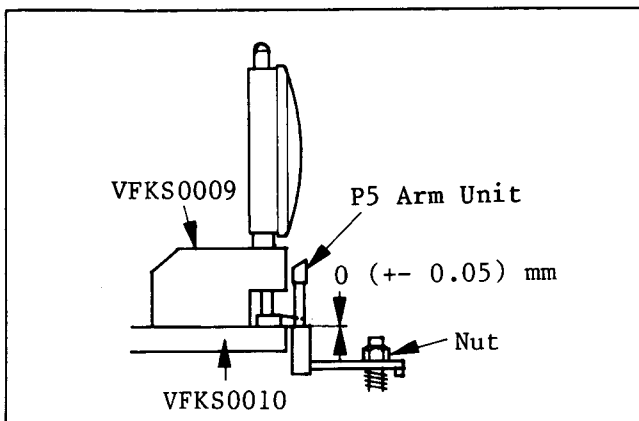

Fig. M22 Height Adjustment of Pull Out Post
5. Slightly lower the post by turning the nut clockwise. Place the foot to the post as shown in Fig. M22.